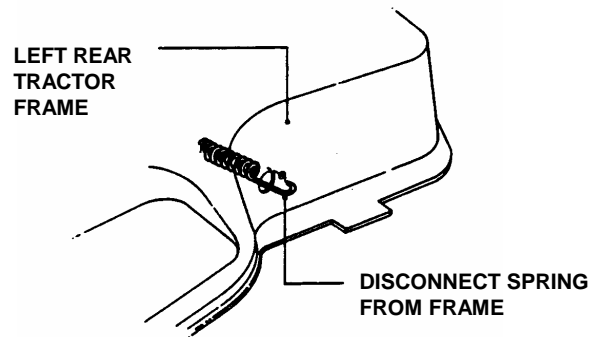

FIGURE 4.22
12. Disconnect traction belt idler pulley spring from tractor frame. See Figure 4.22.